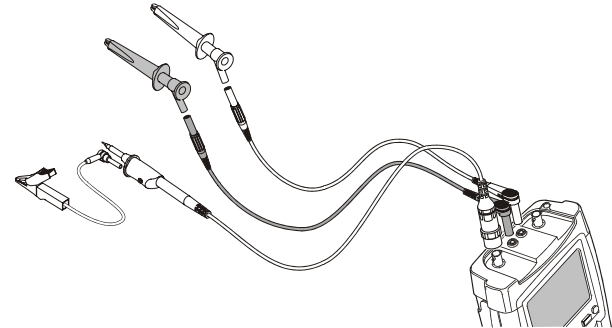

Figure 20. Scope Record Using External Triggering
- 4 Apply the signal to be recorded to the red BNC input A. Apply a trigger signal to the red and black external trigger banana inputs. (See Figure 20.)